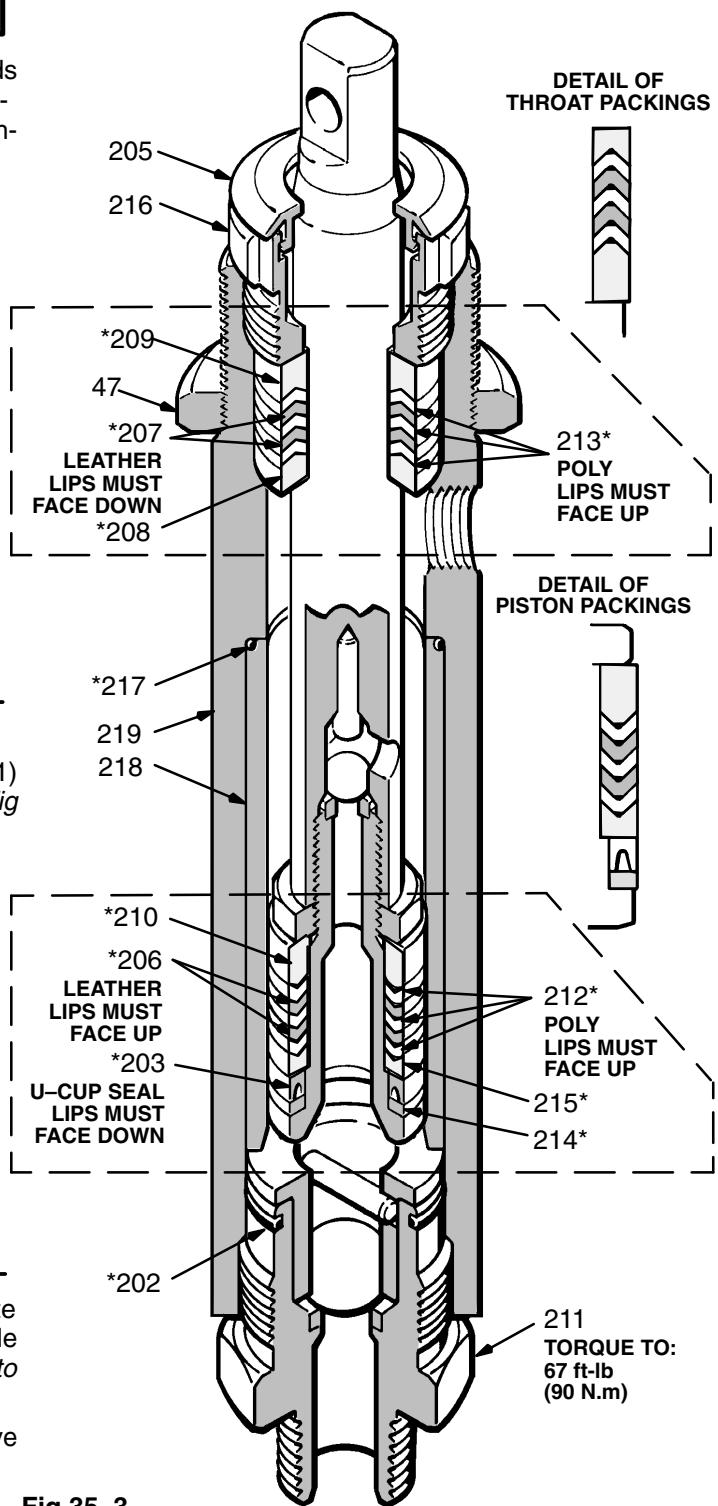
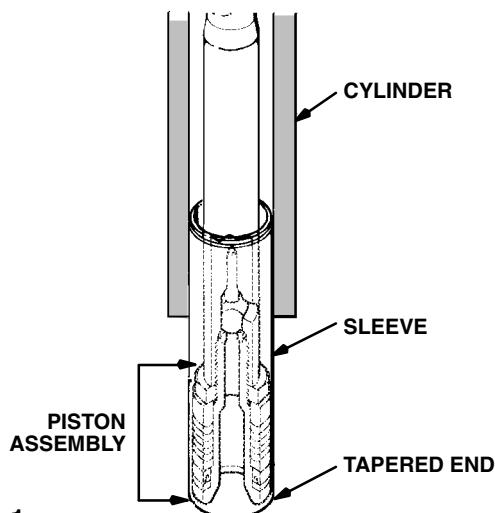

Fig 35-3
Fig 36-1
3. Remove the packing nut (216) and plug (205). *Refer to Fig 35-3.*
4. Use a plastic mallet to tap the piston rod (224) down, then pull the rod out through the bottom of the cylinder.
5. Remove the throat packings (207, 213) and glands (208, 209). *Refer to Fig 35-3.*
8. One at a time stack the male gland (208*), alternate the packings (213*, 207*), and then install the female gland (9), into the top of the cylinder (219). *Refer to Fig 35-3.*
9. Install the packing nut (216) and plug (205), but leave loose for now. *Refer to Fig 35-3.*
11. Place a new o-ring (217*) firmly in the cylinder groove. *Refer to Fig 35-3.*
12. Slide the sleeve/piston rod assembly **INTO THE BOTTOM OF THE CYLINDER**. This is to prevent packing damage during reassembly. Refer to Fig 36-1.
13. Screw down the cylinder locknut (31) until it is finger tight at the bottom of the external cylinder threads.
14. Place flats of the intake valve (223) in a vise. Install a new o-ring (202*). Screw the pump cylinder into the valve. Torque to 67 ft-lb (90 N.m). Refer to Fig 35-3.